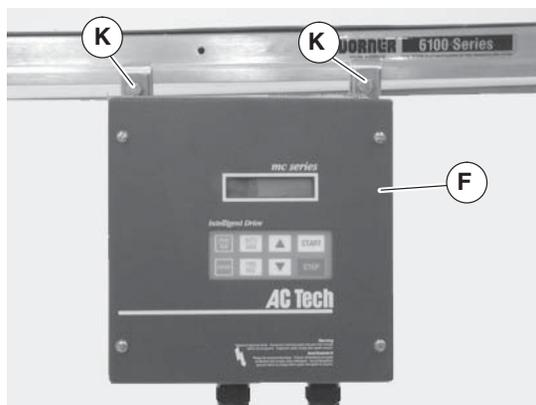

Figure 12
3. Attach controller (Figure 12, item F) to conveyor with screws (K).